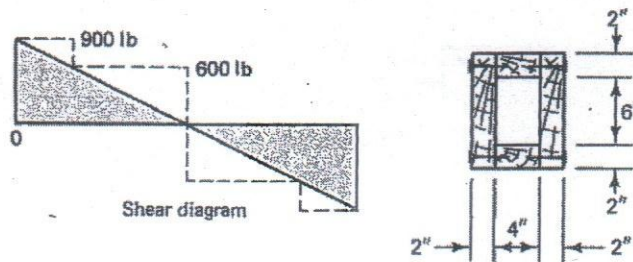

Fig. 13
7. (a) A 20m diameter spherical tank is to be used to store gas. The shell plating is 10 mm thick and the working stress of the material, that is, the maximum stress to which the material should be subjected, is 125 MPa. What is the maximum permissible gas pressure? (10)
- (b) The shear diagram for the box beam supporting a uniformly distributed load is conservatively approximated for design by the stepped diagram shown in Fig. 13. If the beam is nailed together with 16d (16-penny) box nails from four full-sized pieces, as shown in the cross section, what nail spacing should be used along the span? Assume that each nail is good for 75 lb in shear. (15)